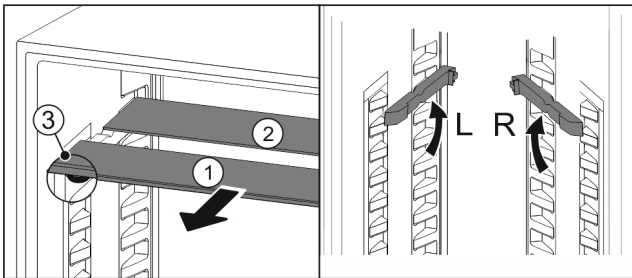

Fig. 115
- ▶ Pull the glass panels out Fig. 115 (1) from the front, one at a time.
- ▶ The glass panel Fig. 115 (1) and trim strip are at the front.
- ▶ The stops Fig. 115 (3) point down.